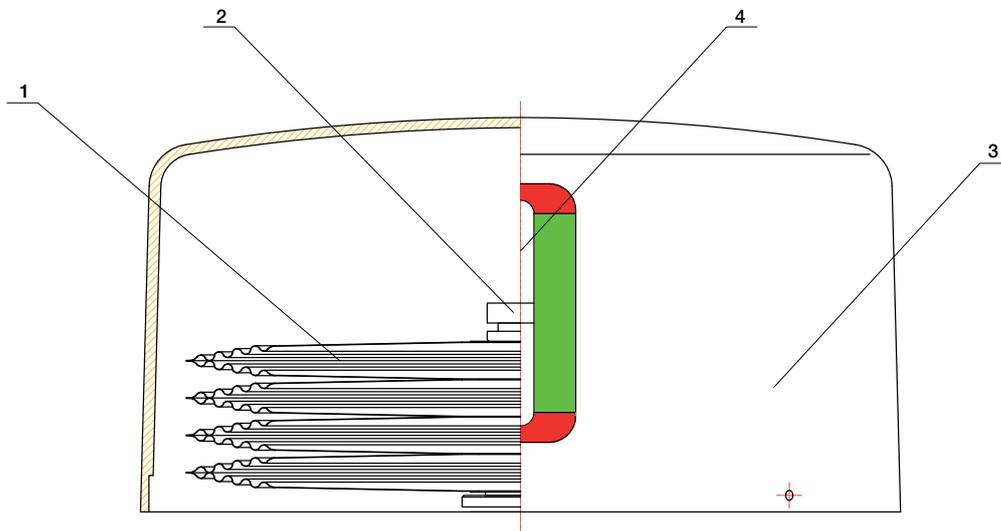

Fig. 3. Construction of the compensation system
On the lid covering the head stainless steel expansion bellows (1) are placed, used for compensation of oil volume thermal changes in the transformer. The oil level indicator (2) is placed on the upper surface of the bellows. The bellows is seated in a metal housing (3) equipped with a window (4). Cover removal does not result in unsealing of the transformer. The whole compensation system is shown in Figure 3.